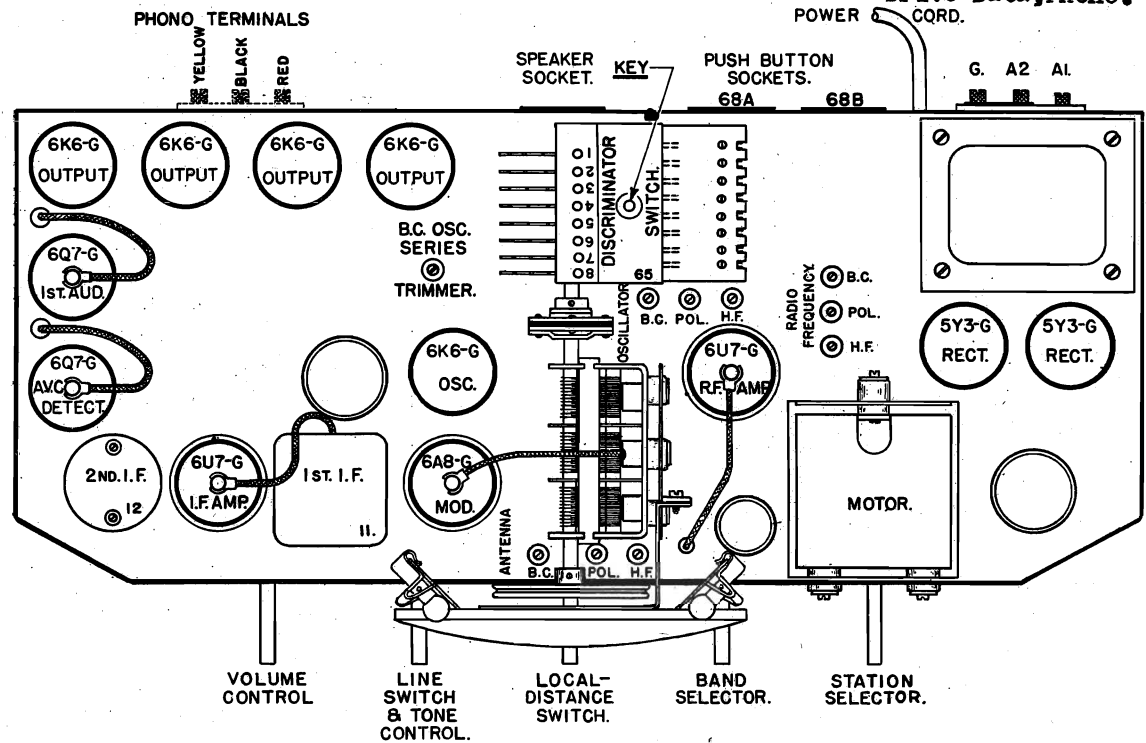

Fig. 2. Top View Models 1217 and 1227
(c) To align the series trimmer (See Fig. 2), set the signal generator to the frequency indicated below (D) and then tune-in this signal with the station selector for maximum output. To obtain the best adjustment for the series trimmer, it will be necessary to rotate the station selector back and forth slightly while adjusting the trimmer for maximum output. Minor tolerance variations in series alignment at 2500 kilocycles in the Police Band and at 7000 kilocycles in the High Frequency Band may be compensated for by slight repositioning of the grid lead of the antenna coil in the Band affected.